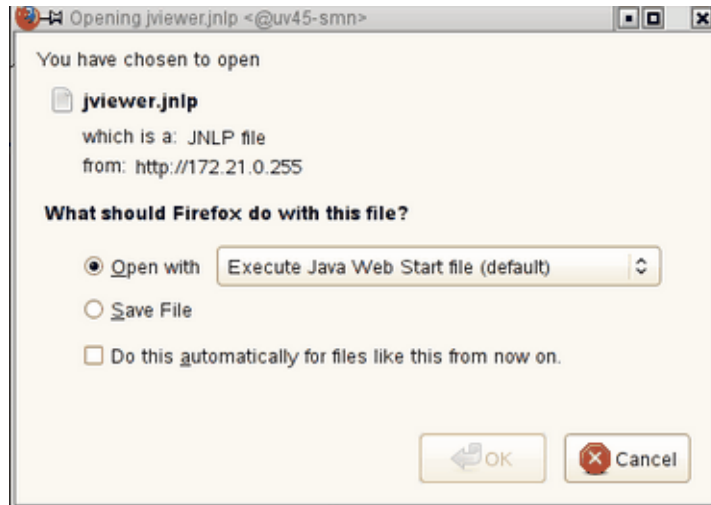

Figure 3-5 Select Execute Java Web Start file (default) Pop-up Menu
8. A Java application under Firefox will open. **Select Execute Java Web Start file (default)** from the pop-up menu, as shown in Figure 3-5 on page 40. You may need to enable pop-ups for this address for the Firefox browser first.